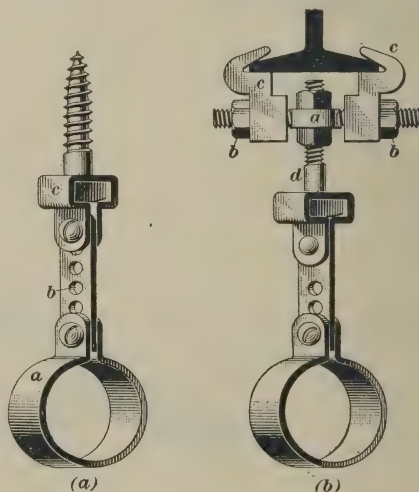

FIG. 58
80. Fig. 58 (a) shows the **Ideal pipe hanger**. This is a strong, although light-looking, hanger made of flat steel. The clamp *a* is sprung over the pipe and clamped to the perforated bar *b*, which in turn is clamped to a steel socket *c* enclosing a bolt or lagscrew. It can be adjusted by the flat perforated bar *b*, which is cut off to suit. A beam clamp, as shown in Fig. 58 (b), is used for clamping the hanger to iron and steel beams. It is made entirely of steel; the adjusting bar *a* is fitted with locknuts *b, b* on each end for holding the toes or hooks *c, c* around the beam and at the same time obtain an easy sidewise adjustment. A fine vertical adjustment is obtained by means of the bolt *d*.